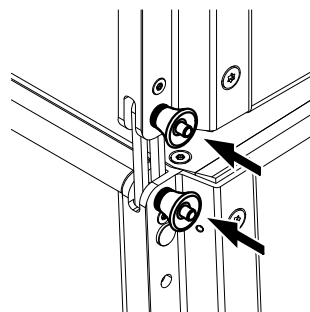

Fig. 3: SUB to SUB, 2.5° splay, free
- SUB to SUB with 2.5° splay (free ⇒ Fig. 3) between the cabinets.